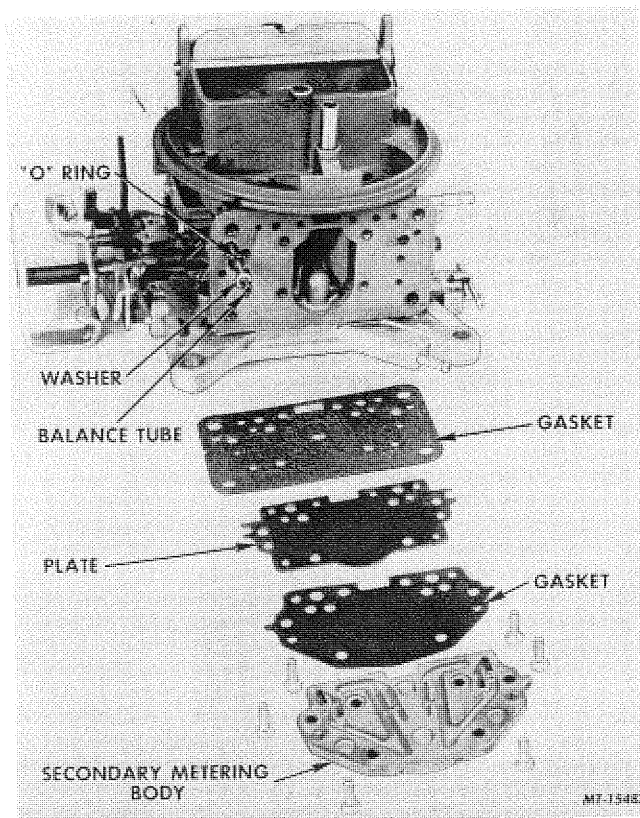

FIG. 35 Removal or Installation of Secondary Metering Body (Model 4160)
15. Remove secondary metering body plate and gaskets from main body (Figure 35). **A clutch head screwdriver must be used. Do not attempt to make one from a regular screwdriver. Remove balance tube washers and "O" ring.**
2. Install a new secondary metering body (plate) to main body gasket followed by the metering body (plate) (Figure 35). Install six clutch head screws. Tighten evenly and securely with a proper clutch head screwdriver.